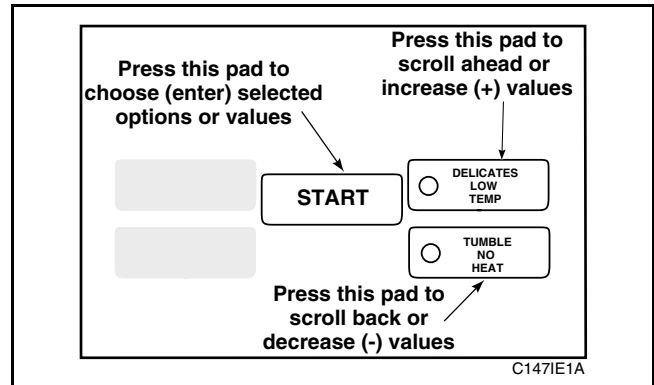

Figure 27
5. Press the LOW TEMP (+) pad **or** the NO HEAT (-) pad to increase or decrease the number of minutes displayed in the VFD to the desired number of minutes, *Figure 27*.